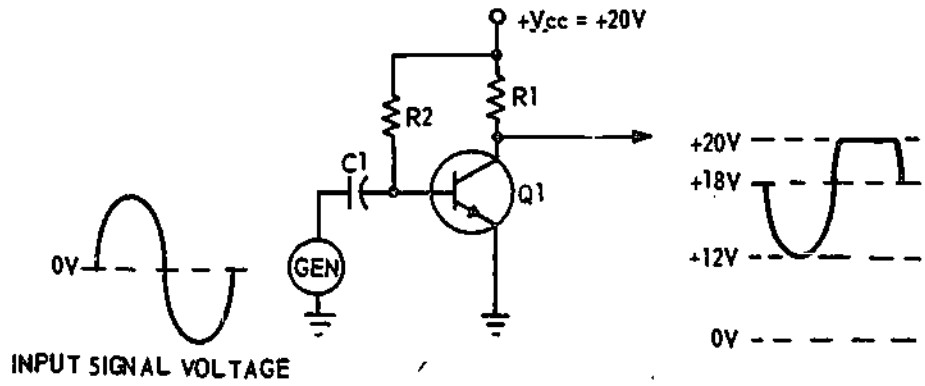

Figure 50-10
- 8. Considering the input and output signals of the circuit in figure 50-10, the circuit would be correctly identified as a (NPN) (PNP) (cutoff) (saturation) limiter.
- 9. Increasing the forward bias in figure 50-10 would cause limiting to (increase) (decrease).